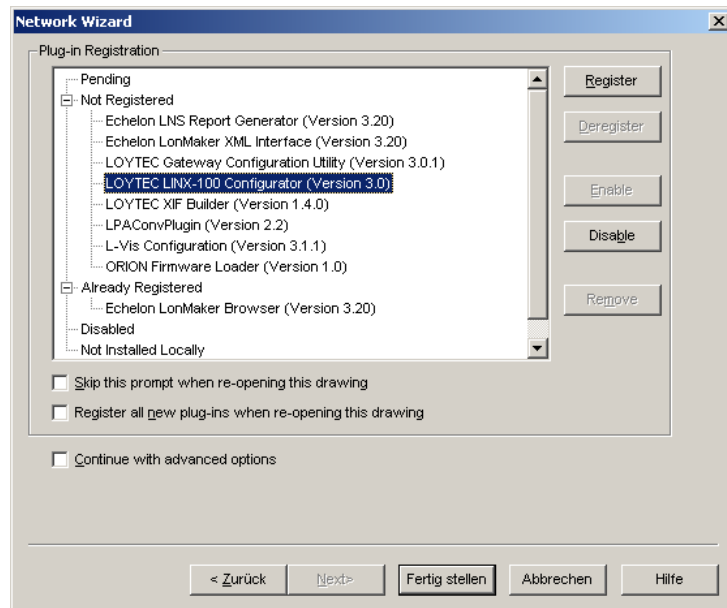

Figure 102: Select the Plug-in to be registered.
2. Click **Next** until the plug-in registration tab appears in the Network Wizard. Select the **LOYTEC LINX Configurator (Version X.Y)** from the list of **Not Registered** (see Figure 102).